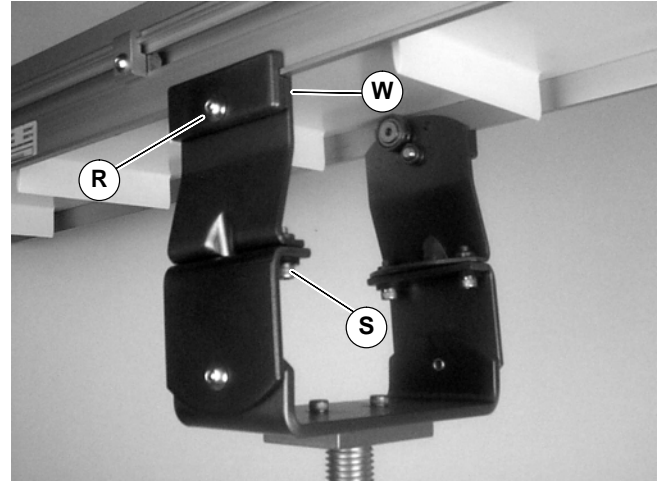

Figure 23
3. Install attachment assembly (W of Figure 23) on bottom of conveyor. Tighten bracket screws (R): Tighten M8 screws to 80 in-lb (9 Nm). Tighten 5/16 screws to 150 in-lb (17 Nm).